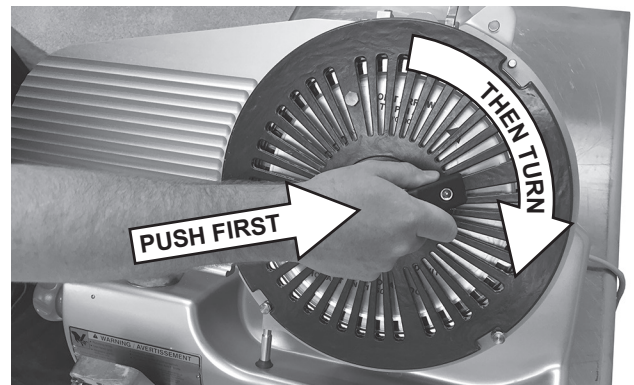

Fig. 19
- Push the Handle firmly (Fig. 19), all the way into the Hub to engage the pins. Then, turn the Handle clockwise until it stops. Some resistance may be experienced when turning.